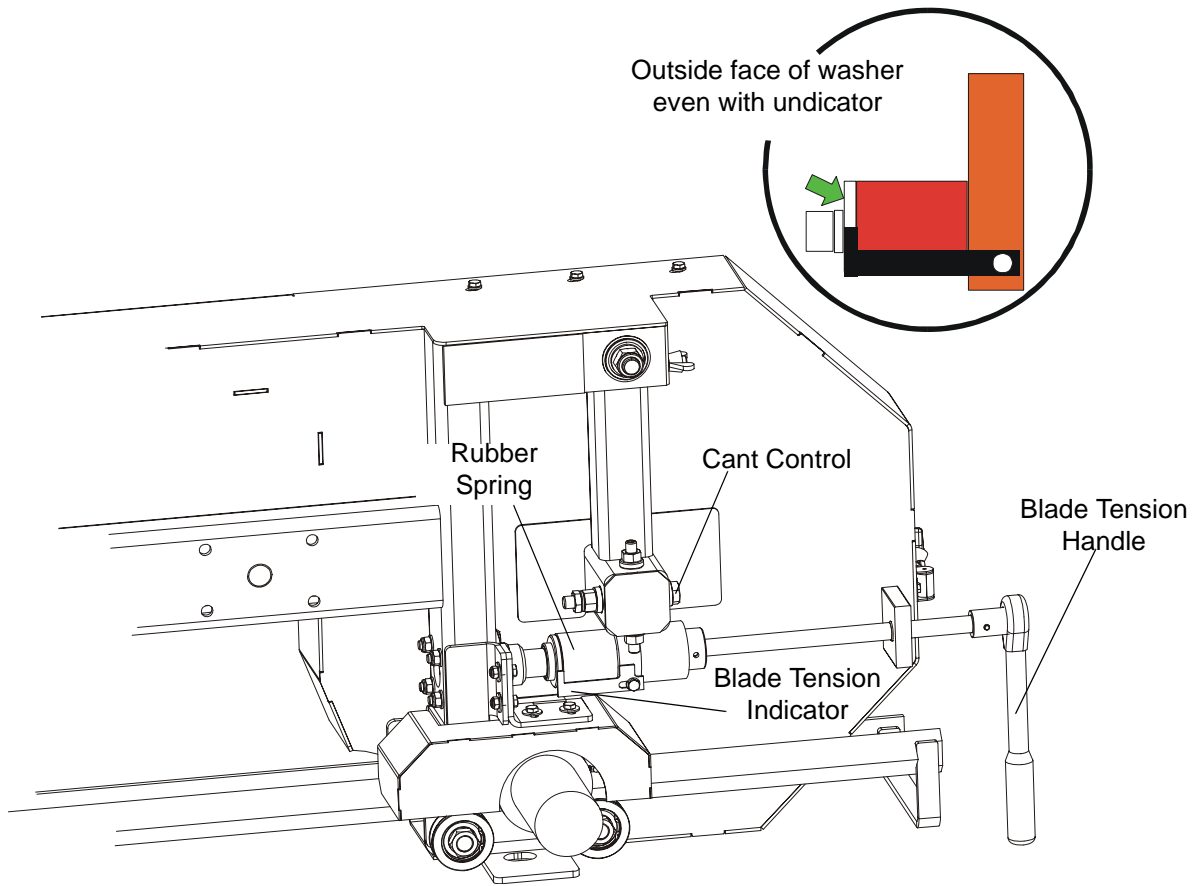

FIG. 2-17
5. Use the cant adjustment bolt, shown in **Figure 2-17** to adjust where the blade travels on the blade wheels.